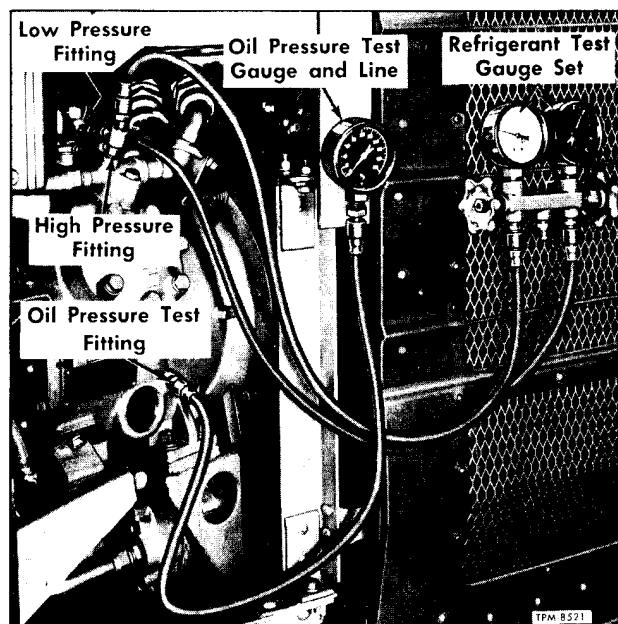

Figure 88—Checking Compressor Pump Pressure
1. Connect refrigerant test gauge to low pressure test gauge fitting (fig. 88). NOTE: For this particular check it is not necessary to connect the gauge set high pressure line to compressor discharge or high pressure fitting as shown.